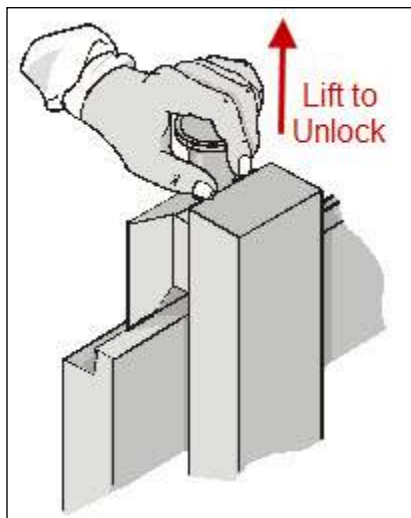

Figure 3-2: Fork Removal
3. Pull the fork tine upward until the hook is free of the carriage. **See Figure 3-2.**